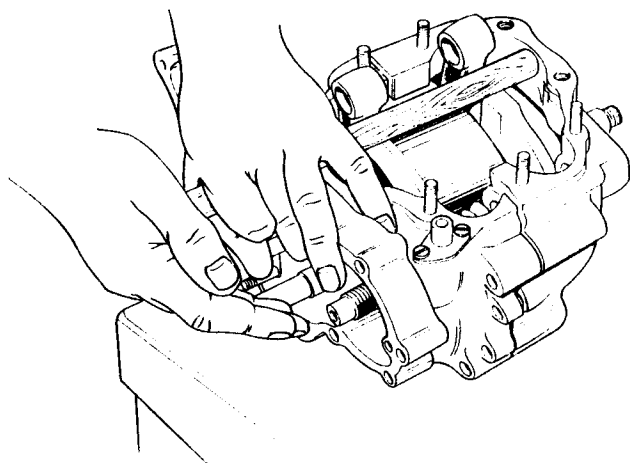

Fig. C25 Parting the crankcases using a wood block against the inner drive side
- 18 Part the crankcases, releasing the crankcase joint by the use of bar of wood against the drive side crankcase as shown in *Fig. C25*.